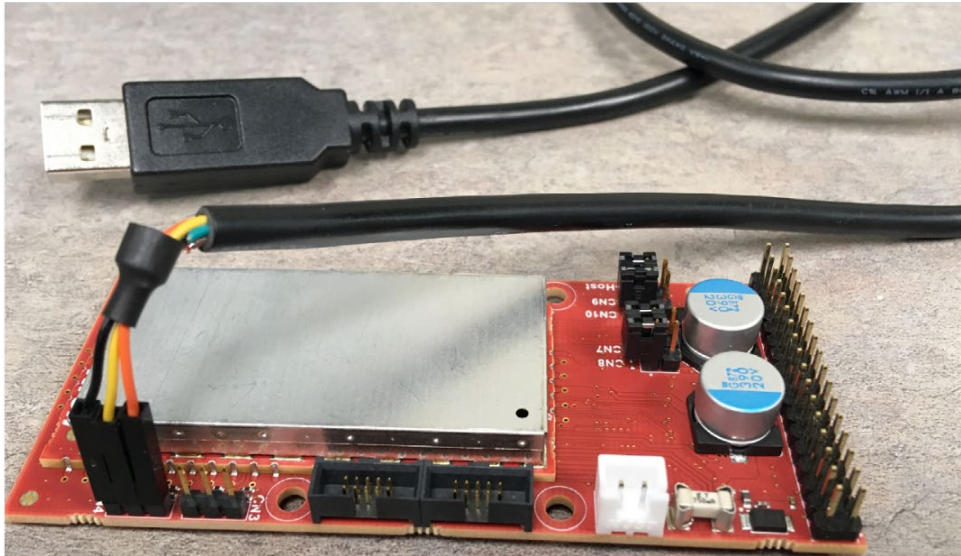

Figure 8: Module on host board and connected to Serial to USB cable
4. Connect the serial to USB cable with the three pin connector on the far left of the image shown in Figure 8. The yellow in the middle and the black (ground) in the position closest to the end of the board. Plug the USB end of the cable you're your laptop.